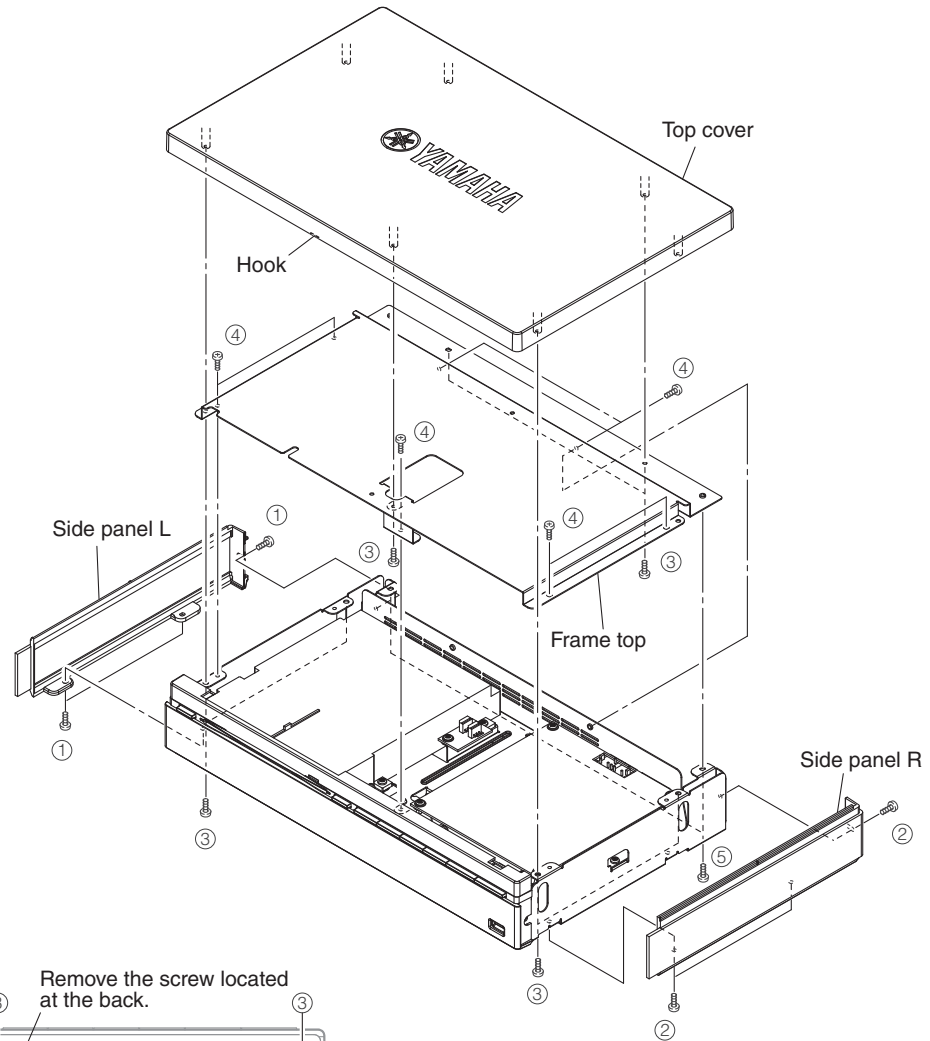

Fig. 1
- a. Remove 3 screws (①). Remove the side panel L. (Fig. 1)
- b. Remove 3 screws (②). Remove the side panel R. (Fig. 1)
- d. Release a hook. Remove the top cover. (Fig. 1)
- a. Remove 7 screws (④). (Fig. 1)
- c. Remove the frame top. (Fig. 1)